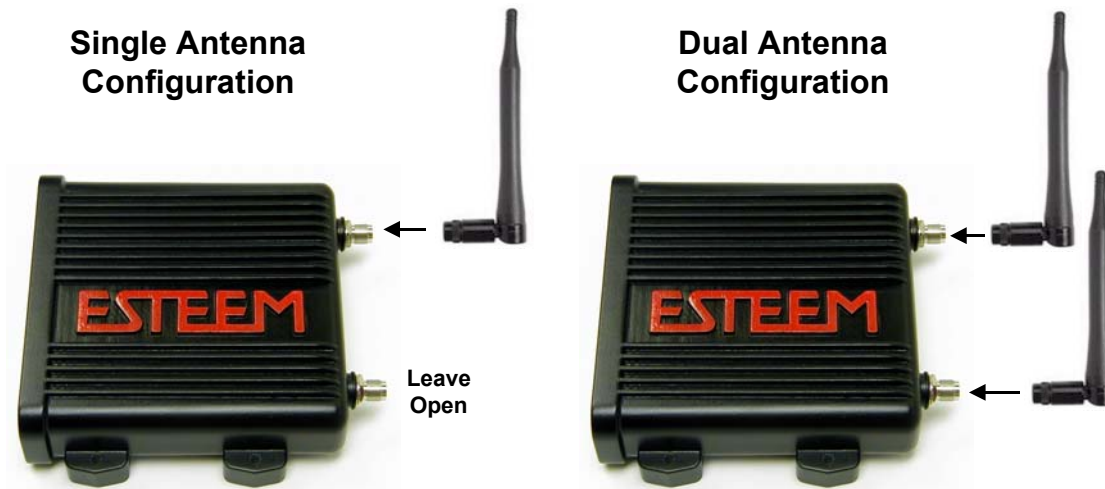

Figure 3: Antenna Configuration Diagram
1. Connect the antenna to the antenna connector on the Horizon (Figure 3). For a single antenna use Antenna Port 1 and connect both if using dual antennas.